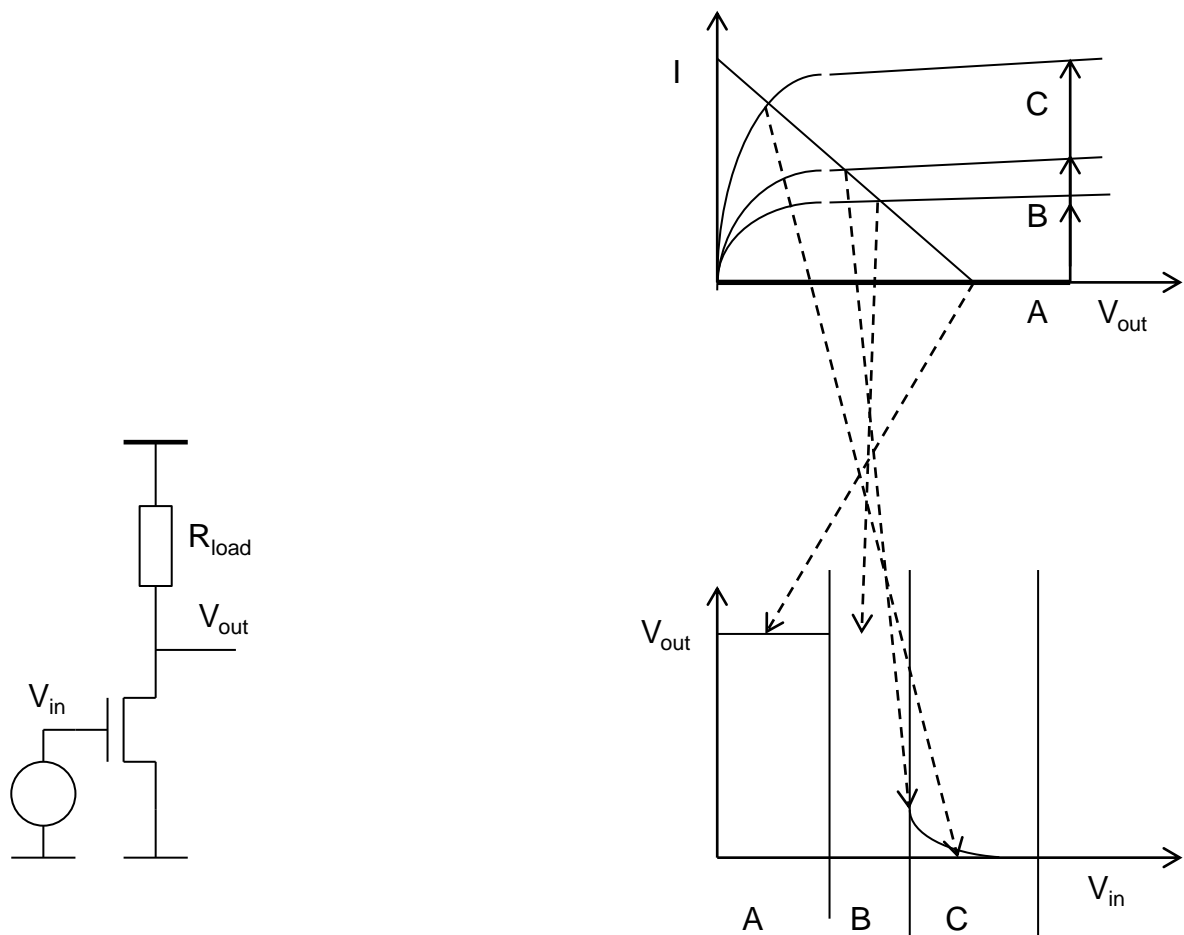

Fig 11: Operating regions of the amplifier
We distinguish different V_{in} regions of characteristics (Fig 11) where the input transistor is off (A) ($V_{gs} = V_{in} < V_{th}$), where the transistor is in saturation (B) ($V_{ds} = V_{out} > V_{gs} - V_{th} = V_{dssat}$) and the region (C) where the transistor is in the triode region ($V_{out} < V_{dssat}$). Only in region B, the voltage gain is high. (We neglect in this lecture the subthreshold current and the body effect.)